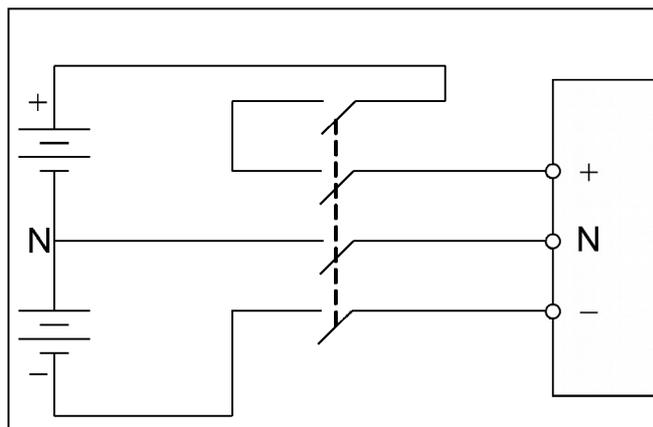

Figure 2 Wiring diagram of battery, circuit breaker and UPS when the external battery adopts three-wire connection
2. If the external battery is configured to adopt CT wiring (i.e., 3 wires will lead out form the battery side), it is recommended to adopt a 4P plastic enclosure DC circuit breaker (the DC rated voltage of the circuit breaker shall be single-pole 250Vdc/two-pole 500Vdc/three-pole 750Vdc, and the rated short circuit disconnecting capacity limit is 45KA). The connection between the battery, circuit breaker and UPS is as shown in Figure 2